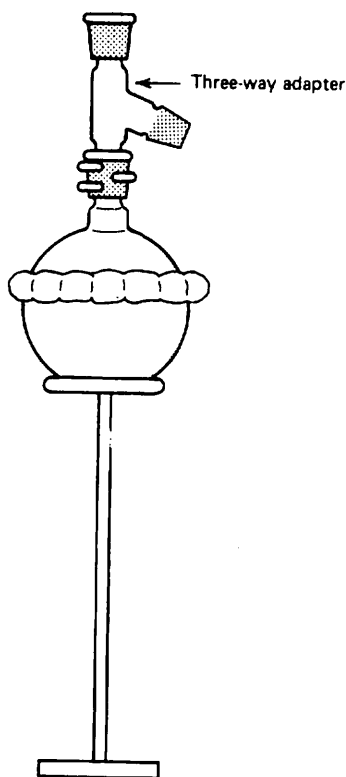

Fig. 91 Clamps and flask and three-way adapter.
4. Add the three-way adapter now (Fig. 91). Thermometer and thermometer adapter come later.